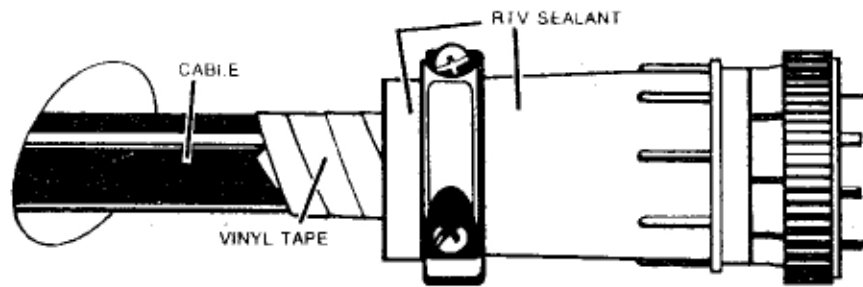

Figure 2.9 Control Cable Connector Sealing
- 5) With the vinyl tape, wrap behind the connector for about 3-4 inches. Before installing the plug clamp and back shell, fill the body of the plug and the shell with RTV sealant (Figure 2.9). Secure the shell and clamp and wipe the excess RTV off of the plug body.